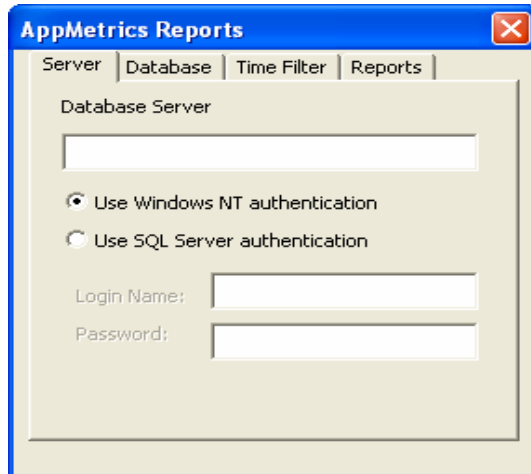

Figure 1
2. First input the machine name of your Instructor's AppMetrics Manager in the **AppMetrics Manager Machine** field of the **Manager** tab (see Figure 1).